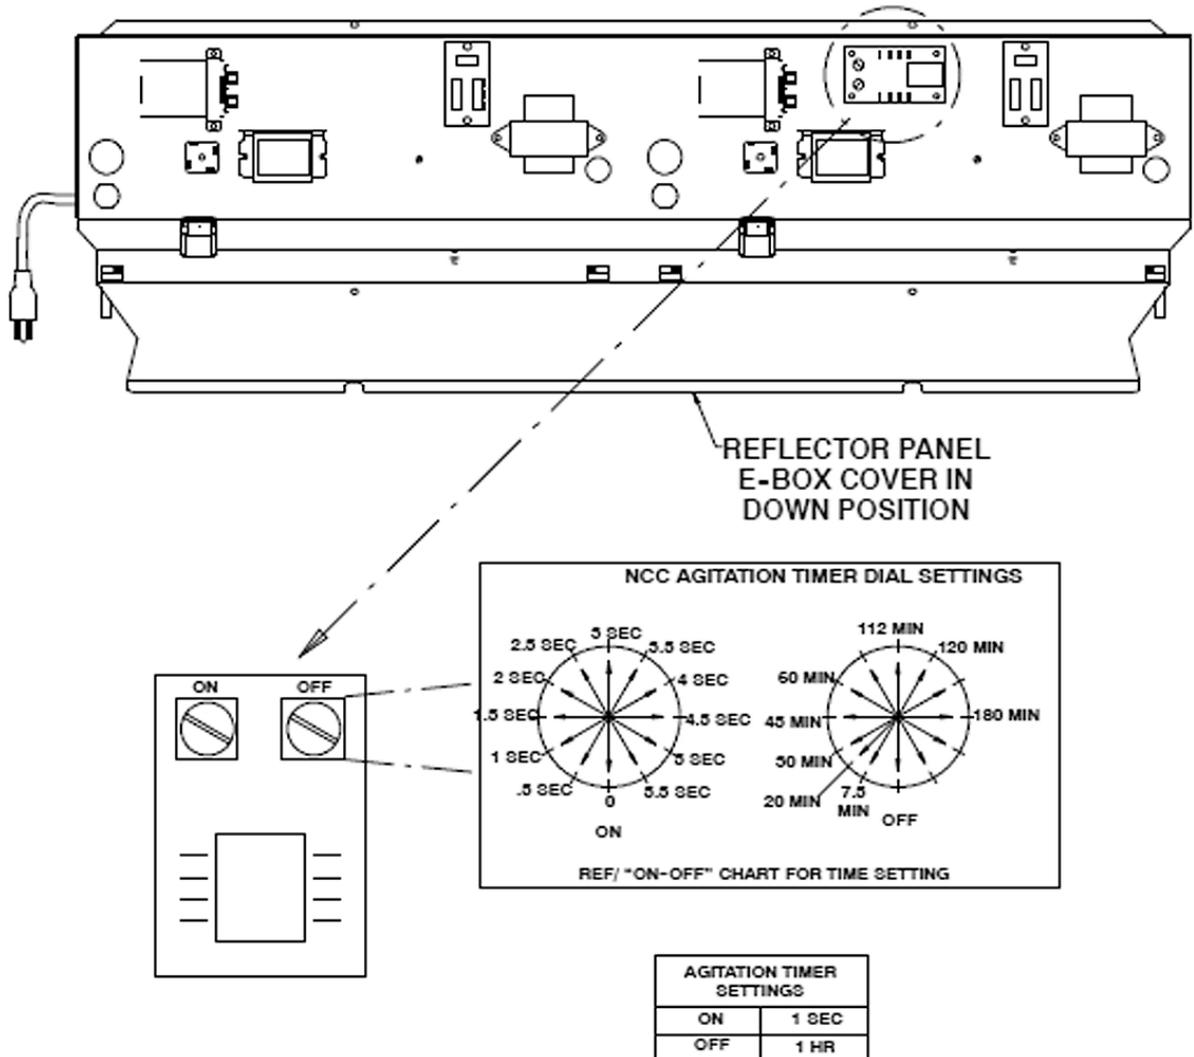

Figure 3. Agitator Timer
1. Remove the top plastic bin covers (2) from the dispenser and discard.
2. Refer to Figure 3 for adjusting the automatic agitation timer:
- B. Loosen/rotate the top (2) mounting screws that secure the white reflector panel/electrical control box cover in place and lower the cover to expose the automatic agitation timer.
- C. Adjust the timer to 1 second on and 1 hour off as shown in Figure 3.